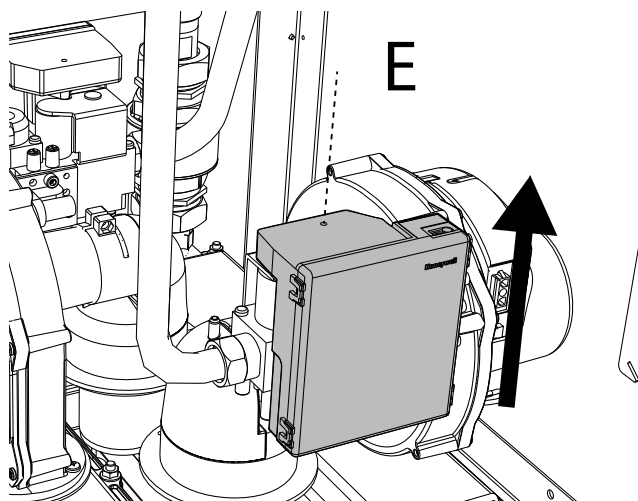

fig. 65
2. Undo the screw "E" and remove the control unit from the gas valve (fig. 65).